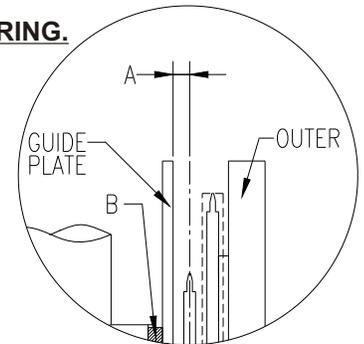

Figure 2.
8. Now that the **GUIDE** is mounted to the bike we need to measure the **SPACING A** (**Figure 2.**) to determine if the setup is correct. Measure the distance from the face of the **GUIDE-PLATE** to the teeth tips of the granny chainring as shown in **Figure 2** to get **SPACING A**.